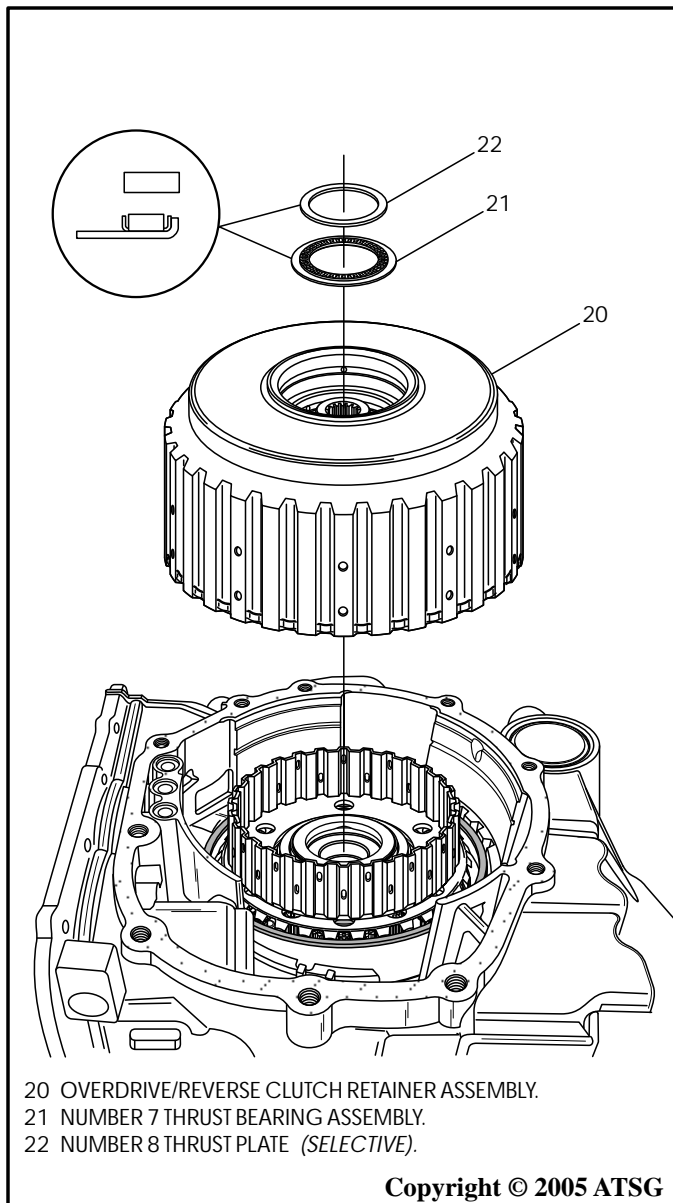

Figure 184
65. Install the overdrive/reverse clutch housing, as shown in Figure 184, by rotating the housing back and forth until all overdrive clutches are engaged with the hub and all reverse clutches are engaged on sun shell, and the housing is fully seated.
66. Install the number 7 thrust bearing, as shown in Figure 184.
**Note:** Do not install the selective number 8 thrust plate. It is shown in Figure 184 for reference only as to where it goes when it is time to install the washer.